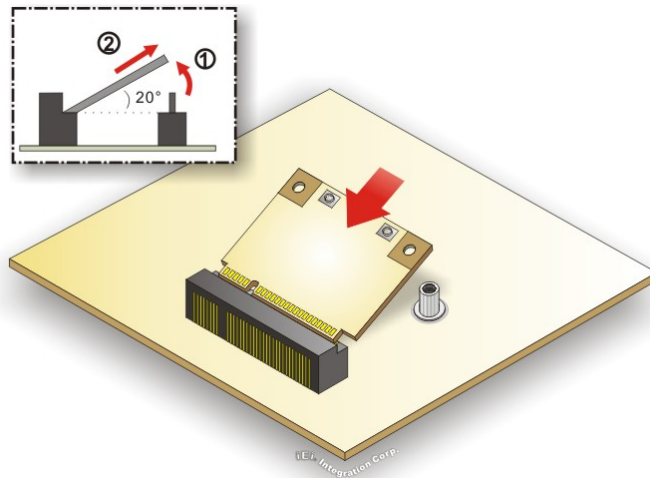

Figure 3-10: Inserting the WLAN Module
Step 4: Line up the notch on the WLAN module with the notch on the slot. Slide the WLAN module into the slot at an angle of about 20° (Figure 3-10).